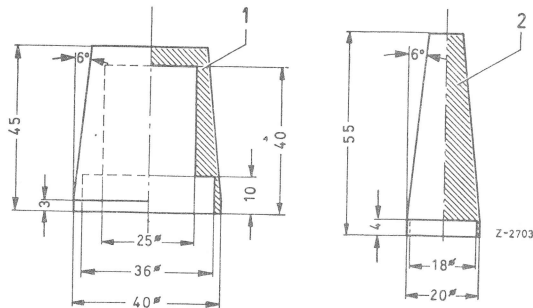
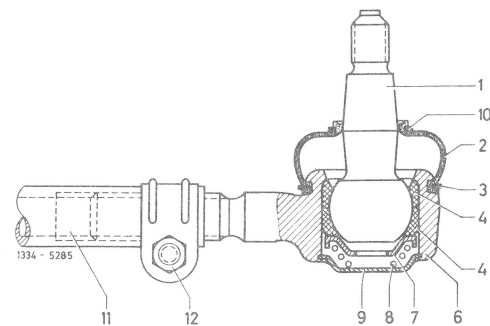

Fig. 6
Fig. 7
Assembly bushing for flat wire clamping ring (Fig. 6)	self-made
Assembly bushing for plastic ring (Fig. 6)	self-made
4 Check rubber sleeves (10). **If rubber sleeve on a used joint shows evidence of damage, renew complete joint.** If rubber sleeve has been damaged when removing track rod, it will be sufficient to renew rubber sleeve. For this purpose, remove flat wire clamping ring (9) and pull off sleeve together with plastic fastening ring (10) (Fig. 7).
Make two assembly sleeves according to dimensions shown in Fig. 6 to insert fastening rings (3 and 10). The flat wire clamping ring (3) in particular will be hard to install without these assembly sleeves (Fig. 7).